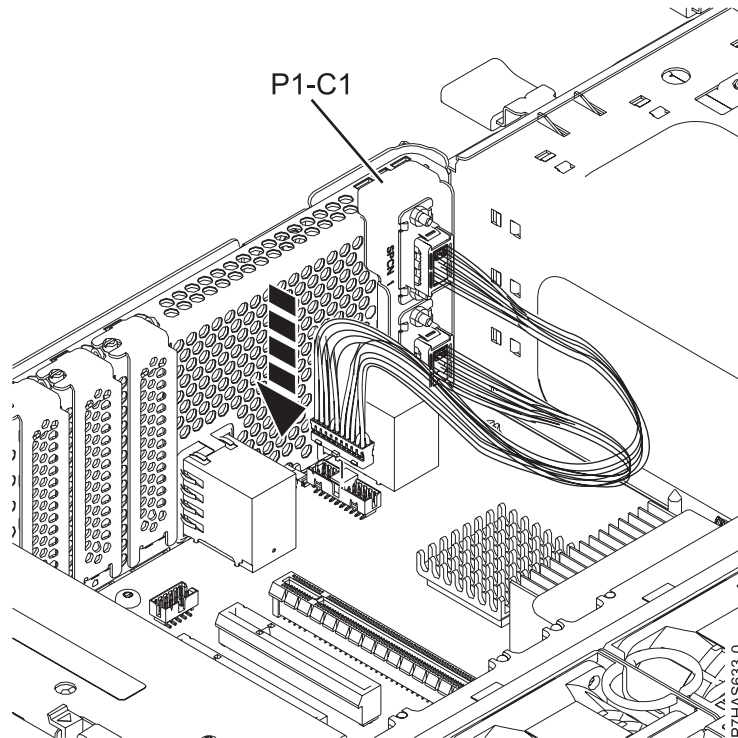

Figure 4. Installing the SPCN cable assembly
- c. Plug the other end of the cable into the connector on the system backplane, as shown in Figure 4 on page 5.